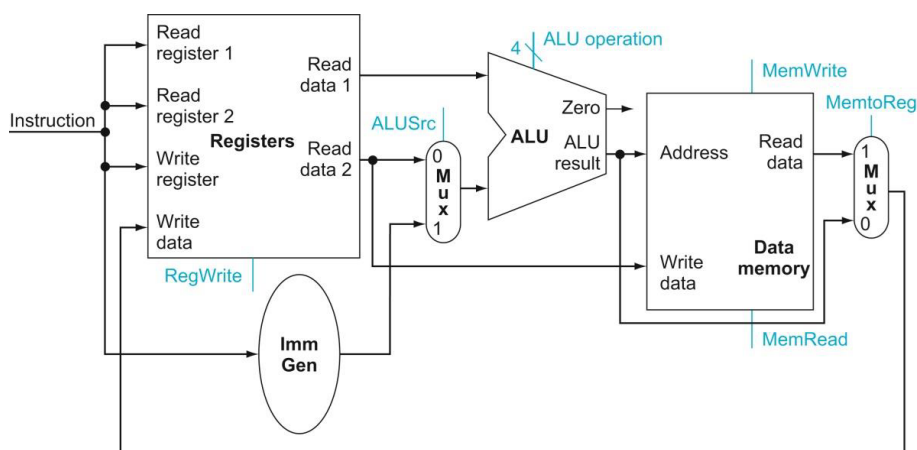

Figure 1: Exercise 1
1. What are the values of control signals generated by the control in Figure 1 for this instruction?